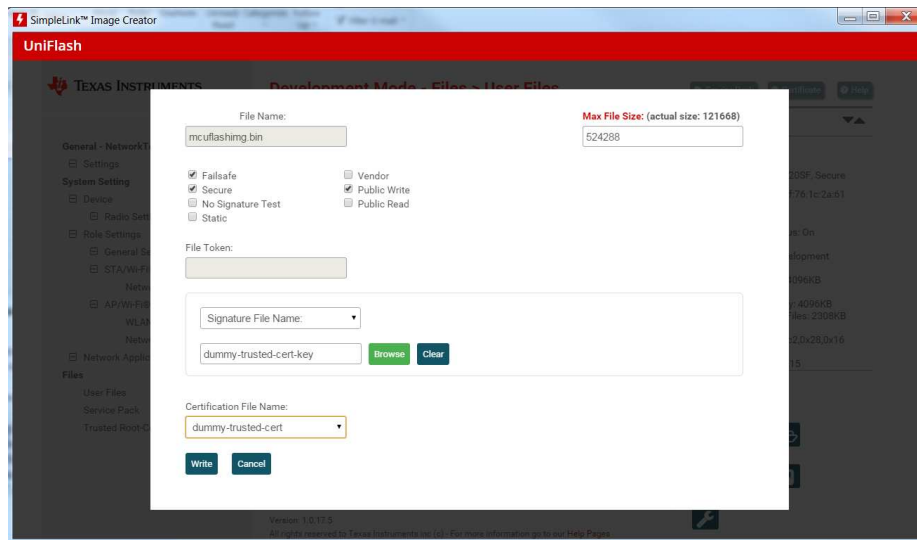

Figure 3-14. Select Certificate File Name
- Select Private Key File Name from the drop-down menu and browse the dummy-trusted-cert-key file available at `<sdk-installation>\tools\cc32xx_tools\certificate-playground`. Select the available Certificate File Name from the drop-down menu, as shown in Figure 3-14, and click Write.